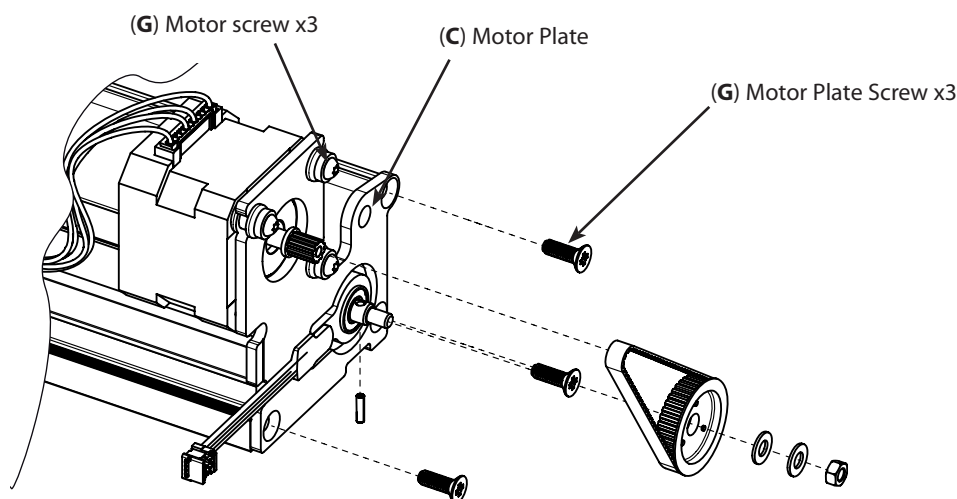
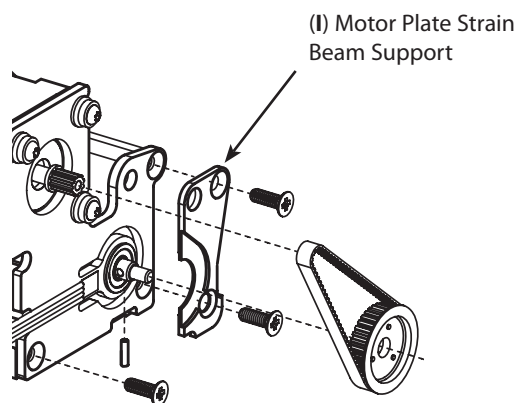

Figure 1 - Current Motor Plate
Figure 2 - Motor Plate Strain Beam Support
**Check Motor Plate serial code, if the code begins with "PH"; e.g. PHDA 123, then this is the current version (see Figure 1) and does not require a Motor Plate Strain Beam Support. All previous version Motor Plates require a Motor Plate Strain Beam Support fitted in position shown (see Figure 2) if not fitted.**